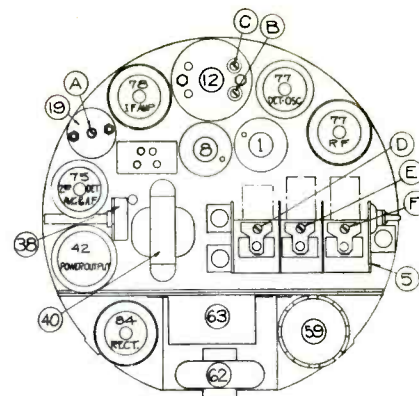

Fig. 2. Chassis view showing trimmer locations.
5. Apply test signal to grid of 77 first detector-oscillator and adjust trimmers B and C to maximum output (see Fig. 2).